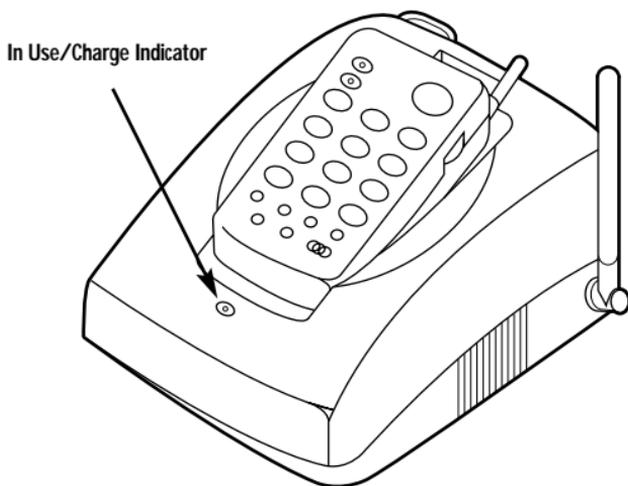

Figure 2-6. Putting the keypad in the base.
1. The In Use/Charge indicator will light up if the keypad is in the base (see Figure 2-6).